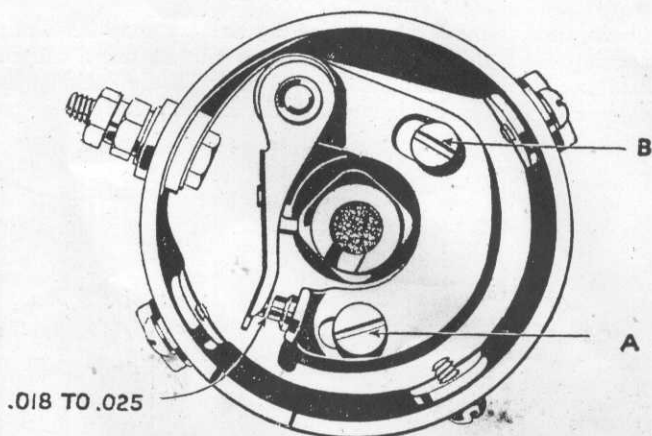

Fig. 27—Adjusting Distributor Breaker Points.
The contact points on the Semi-Automatic Distributor are fixed in their mountings; and are controlled by an eccentric screw moving the mounting plate (Fig 27.)
- 1st—Turn the motor over until the cam is in the position shown in Fig. 27. The contact points are then open the maximum distance.